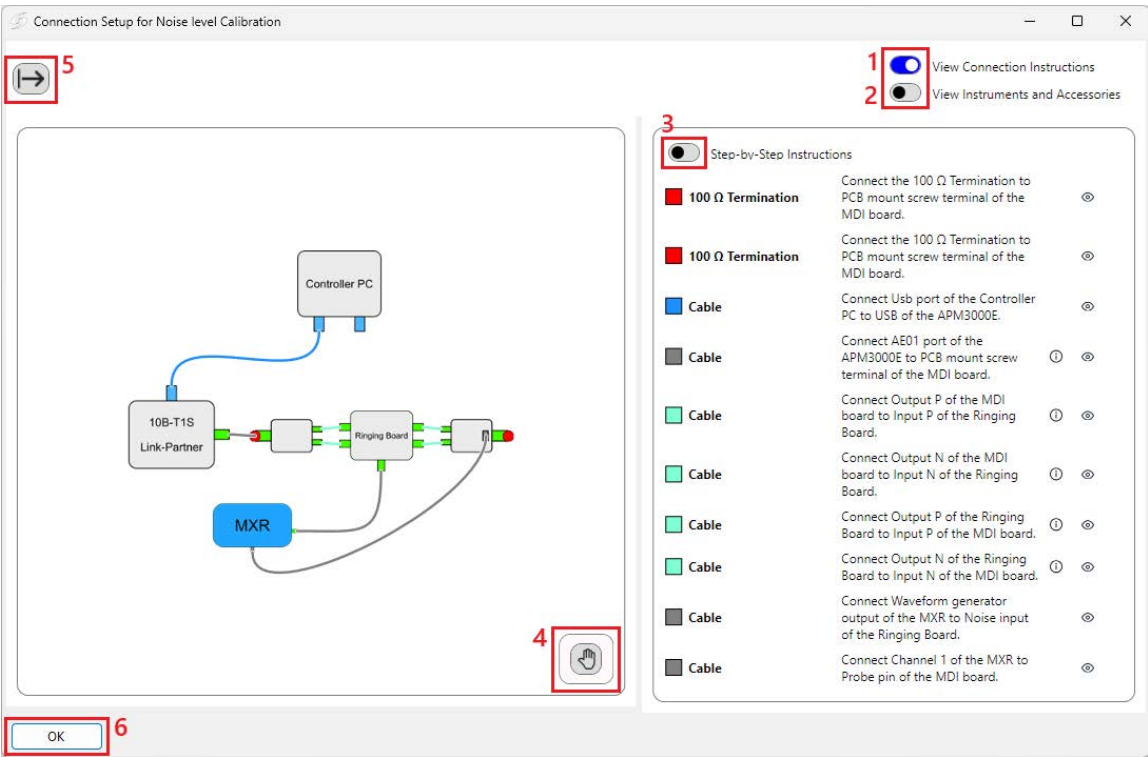
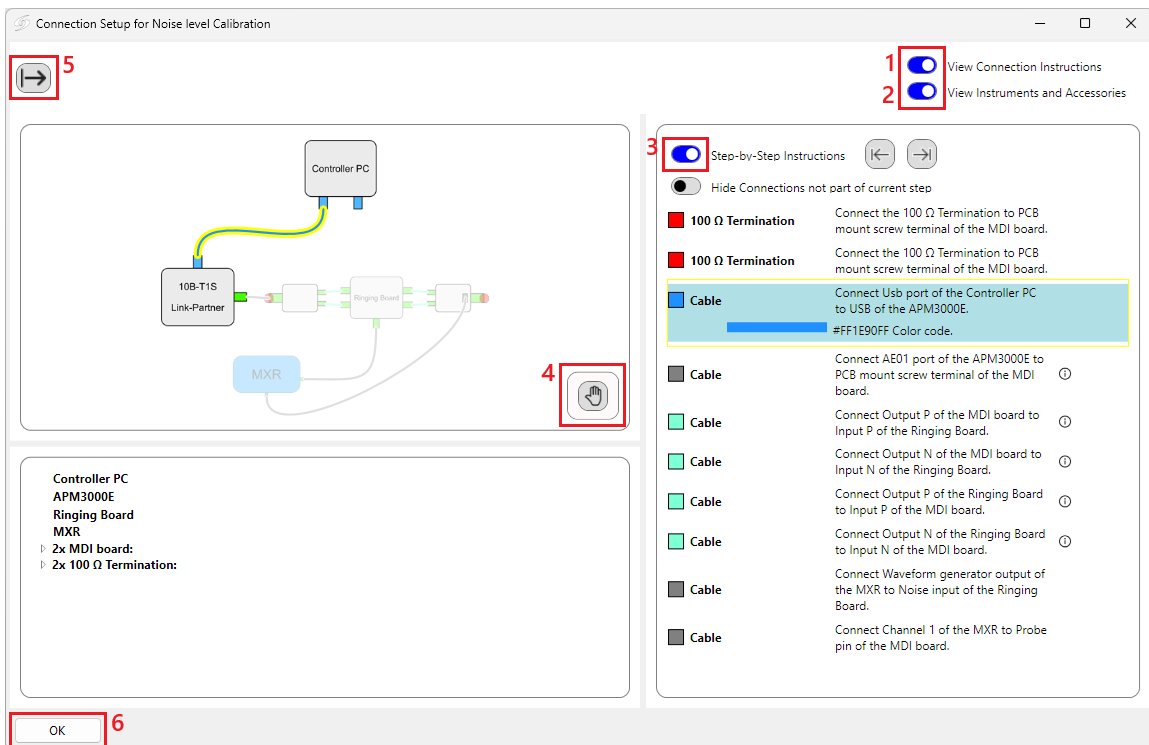

Figure 3-6 Connection setup window - default view
Figure 3-7 Connection setup window with step-by-step instructions and list of instruments and accessories
The default Connection Setup window shows a connection diagram on the left and connection instructions on the right (Figure 3-6). The numbers of the buttons shown in the figures here correspond to the instructions below Figure 3-7.
- 1 **Connection Instructions:** In the default view (Figure 3-6), connection instructions and further information are visible. Toggle off to close the right-hand pane. The connection diagram will fill the whole window.
- 2 **Instruments and Accessories:** Toggle on to view the list of required instruments and accessories (lower left pane in Figure 3-7).
- 3 **Step-by-Step Instructions:** Toggle on to view step-by-step instructions and each connection highlighted in turn (Figure 3-7).